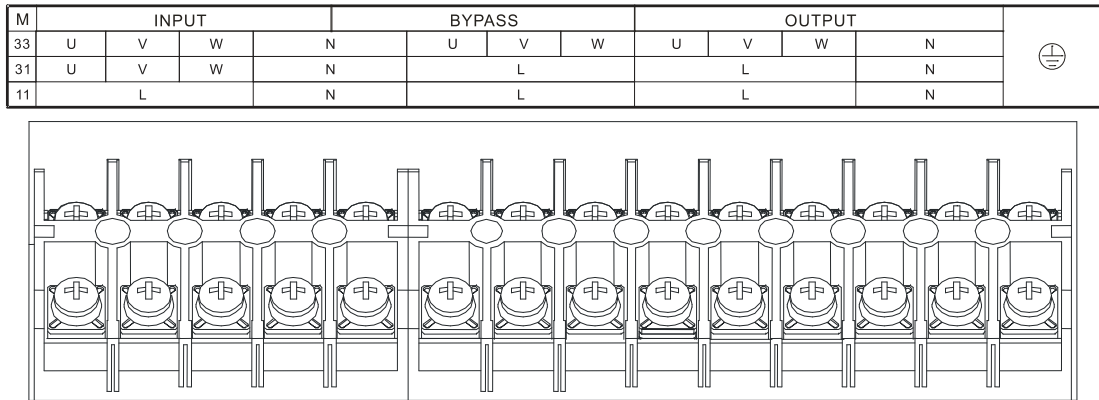
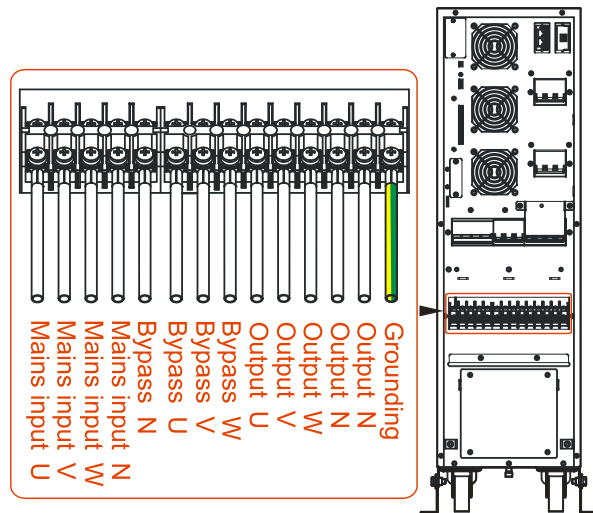
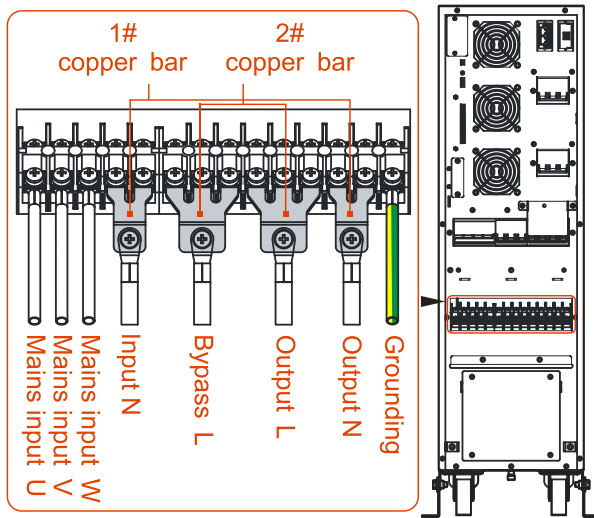
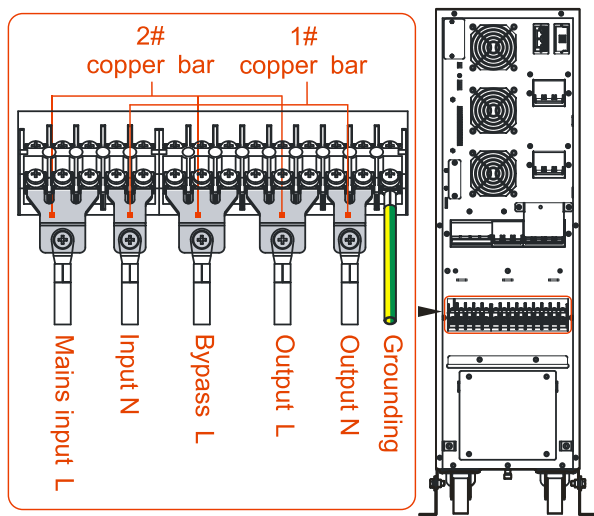

Figure3-12 Wiring terminal silk-screen
Figure3-13 Wiring diagram of 33 mode
Figure3-14 Copper bar and wiring diagram of 31 mode
Figure3-15 Copper bar and wiring diagram of 11 mode
Step 2 The 10/10S/15/15S/20/20S mode includes 33, 31 and 11, the corresponding silk-screen shown in Figure3-12. The wiring terminal of 33 mode, 31 mode and 11 mode have a little different, as shown in Figure3-13, Figure3-14 and Figure3-15.
Connect the wires to corresponding port according to the wiring diagram, as shown in Figure3-13.
Take out a couple of copper bar 1# and 2#, connect them to the wiring terminal of UPS (as shown in Figure3-14). Then connect the wires to corresponding port according to the wiring diagram.
Take out a couple of copper bar 1# and three copper bar 2#, connect them to the wiring terminal of UPS (as shown in Figure3-15). Then connect the wires to corresponding port according to the wiring diagram.